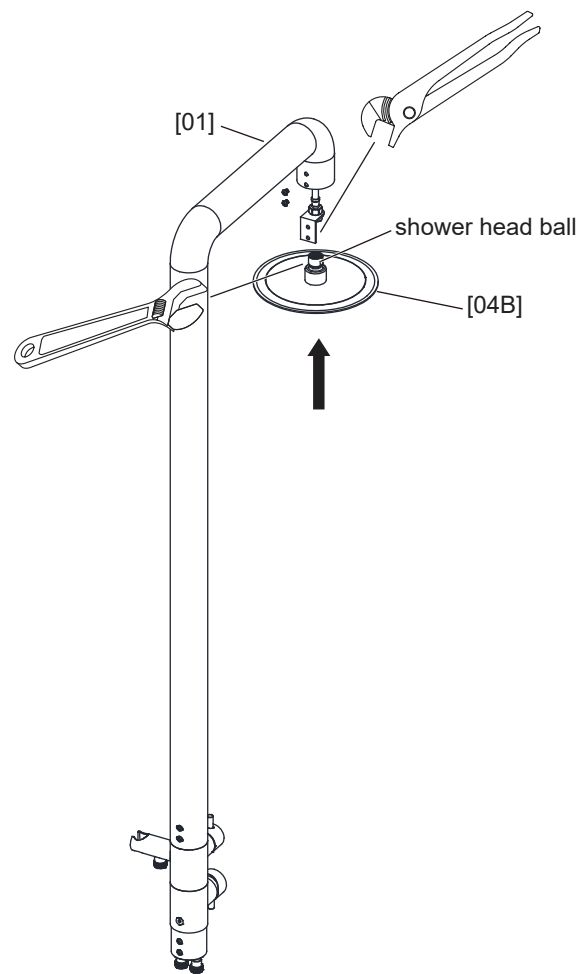

Fig 1.2
Do Not Over Tighten. (Fig 1.2)
- 1-5** Push the **Connector [03]** back inside the **Spout [01]** and secure with the **Screws [02]**. (Fig 1.2)